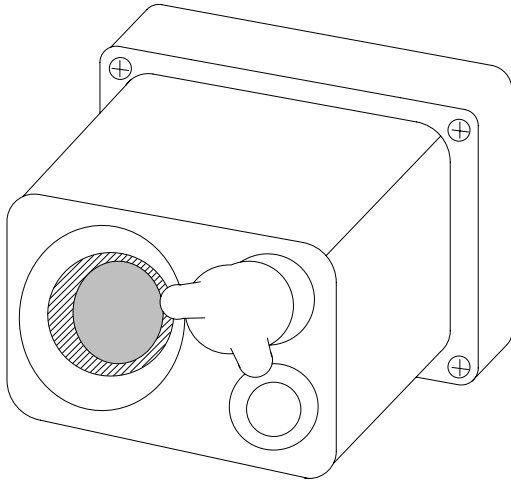

Figure 46-3 Combined UV-IR flame detector.
Infrared (IR) radiation detectors are most sensitive to radiation at the level emitted by hot carbon dioxide, and thus IR detectors are used for fires that result in rapid flaming combustion and production of carbon dioxide, such as petroleum products, wood and paper products, coal, and plastics. They are effective for only about half the range of UV detectors, and react in seconds rather than milliseconds. Because they are subject to frequent false alarms, they are usually used only in enclosed spaces like sealed storage vaults. Detectors that combine UV and IR are available to reduce the risk of false alarms (Fig. 46-3).